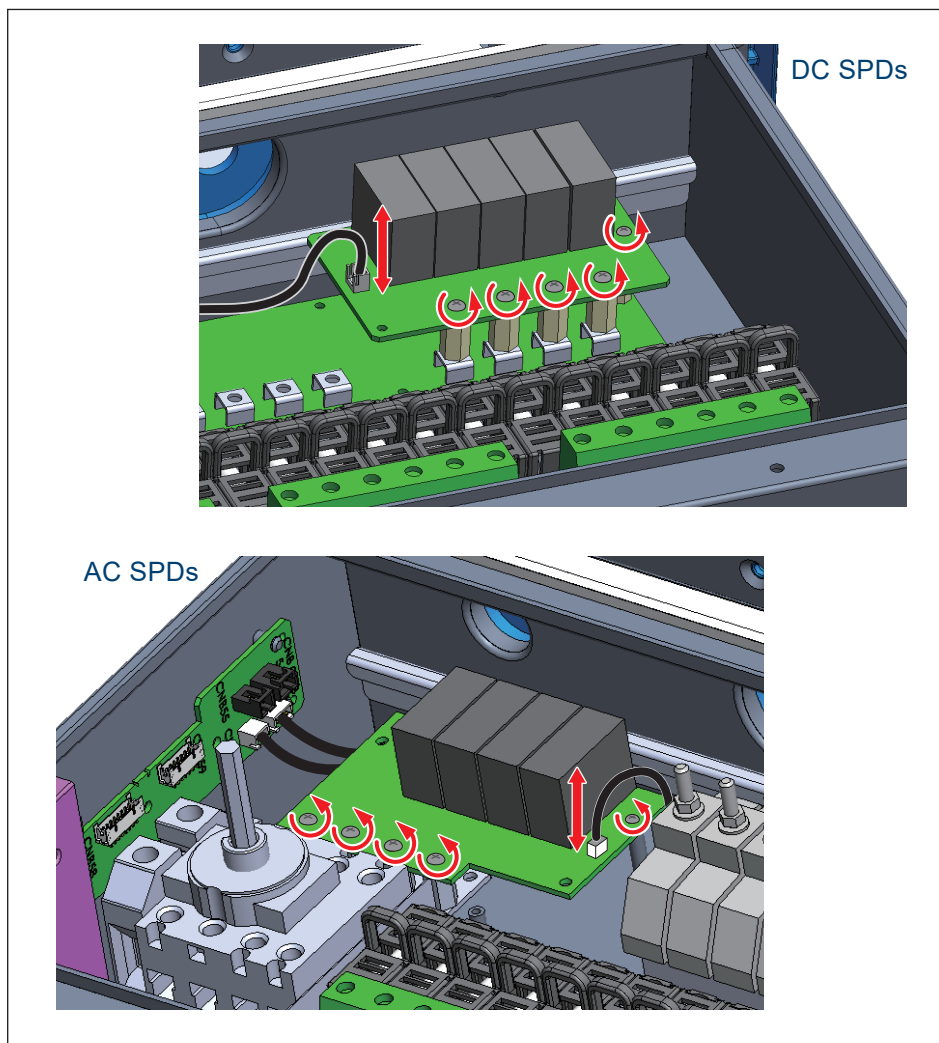

Figure 5-6: Remove screws as indicated unplug connectors
- To remove the defective SPD, refer to **Figure 5-6**
3. Remove the single Phillips head screw located on the left (DC) or right (AC) side of the SPD PCB.